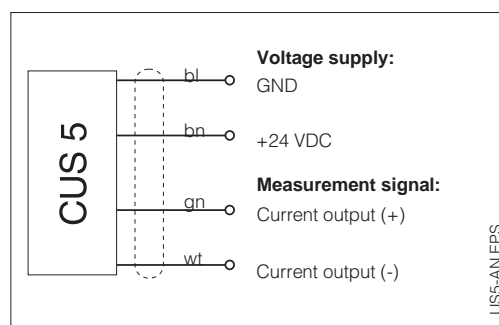

Fig. 4.3 Connection assignments CUS 5 connection cable
- Connect the unprepared cable end according to the assignments in fig. 4.3.